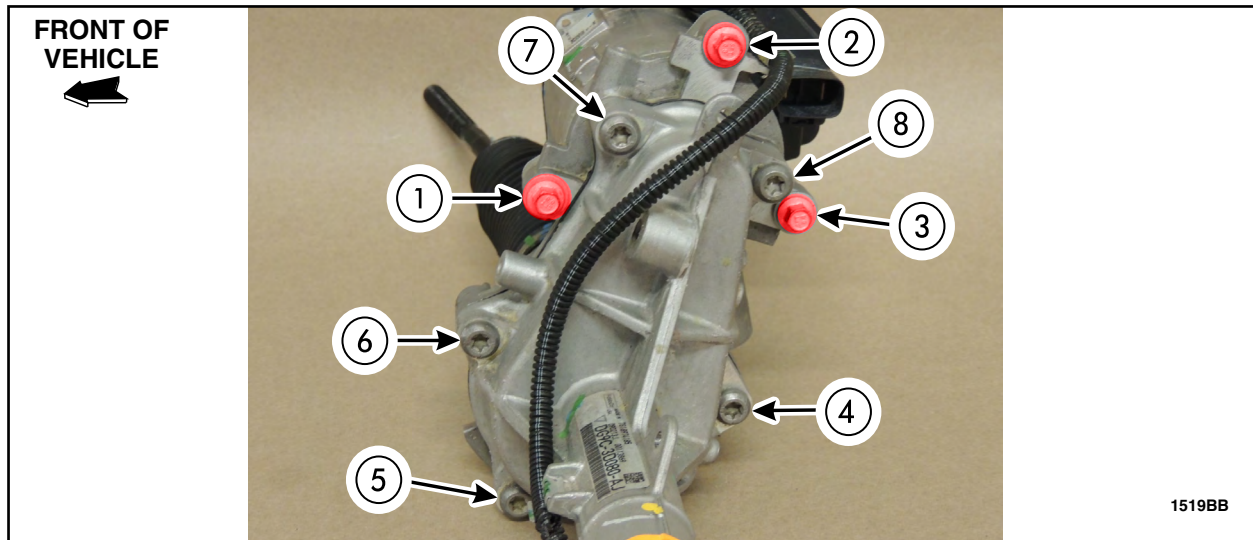

FIGURE 14
**NOTE:** Valugard Rust Inhibitor Aerosol VG-101A or Daubert NOX RUST® 7703-W Corrosion Protection (sealant) must be applied to the eight steering gear bolt heads, threads, and the steering gear motor to gear housing mating seam. See Figures 14 and 15.